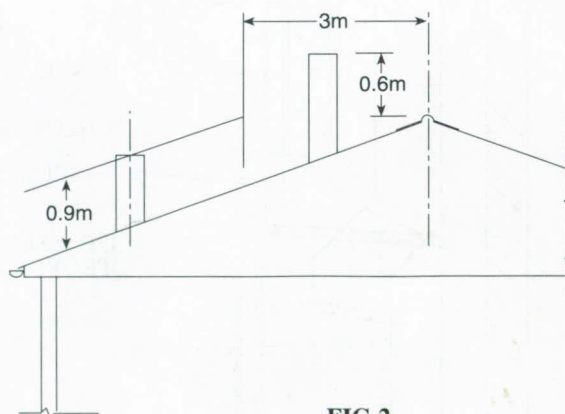

FIG 2.
If the point of intersection of the flue system and the roofline is greater than 3 metres horizontally, the top of the flue system shall be at least 900mm above the point of intersection with the roofline. (Ref FIG 2).
6. Trim 150mm diameter flue pipe to 50mm below chimney top and fit spacer supplied. If the chimney height does not meet the requirements of FIG 2, the fluepipe should be extended until all height requirements are met. Any bare flue pipe shall be protected from over cooling by a 280mm diameter galvanised sleeve.